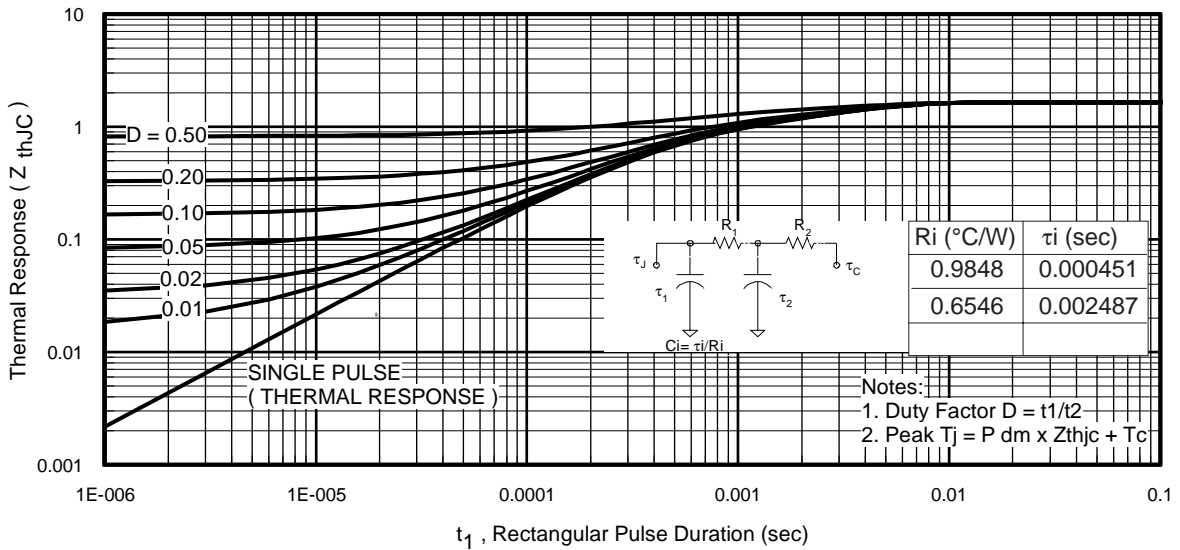
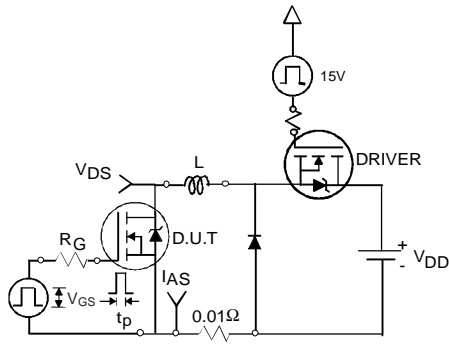

Fig 11. Maximum Effective Transient Thermal Impedance, Junction-to-Case
Fig 12a. Unclamped Inductive Test Circuit
- ① Repetitive rating; pulse width limited by max. junction temperature. (See fig. 11).
- ② Limited by T_{Jmax} ; starting $T_J = 25^\circ\text{C}$, $L = 0.11\text{mH}$, $R_G = 25\Omega$, $I_{AS} = 37A$, $V_{GS} = 10V$. Part not recommended for use above this value.
- ③ $I_{SD} \leq 37A$, $di/dt \leq 920A/\mu s$, $V_{DD} \leq V_{(BR)DSS}$, $T_J \leq 175^\circ\text{C}$.
- ④ Pulse width $\leq 1.0\text{ms}$; duty cycle $\leq 2\%$.
- ⑤ $C_{OSS \text{ eff.}}$ is a fixed capacitance that gives the same charging time as C_{OSS} while V_{DS} is rising from 0 to 80% V_{DSS} .
- ⑥ Limited by T_{Jmax} , see Fig.12a, 12b, 15, 16 for typical repetitive avalanche performance.
- ⑦ This value determined from sample failure population. 100% tested to this value in production.
- ⑧ This is applied to D²Pak, when mounted on 1" square PCB (FR-4 or G-10 Material). For recommended footprint and soldering techniques refer to application note #AN-994.
3. Equation below based on circuit and waveforms shown in Figures 12a, 12b.
$Z_{thJC}(D, t_{av})$ = Transient thermal resistance, see figure 11)